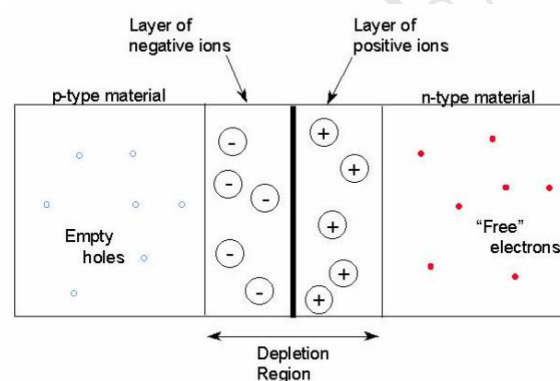

Figure 1.3: Unbiased Diode
- Unbiased P-N junction is the one where no external source is connected across the terminals of the device. Consider a zero bias P-N junction as shown in figure 1.3.
- Similarly the electrons diffusing from N side to P side recombine with the acceptor atoms on P side. As acceptor atoms accept additional electrons, they become negatively charged immobile ions. Such large number of negatively charged immobile ions get formed near the junction on p-side. The formation of immobile ions near the junction is shown in the Figure 1.3.